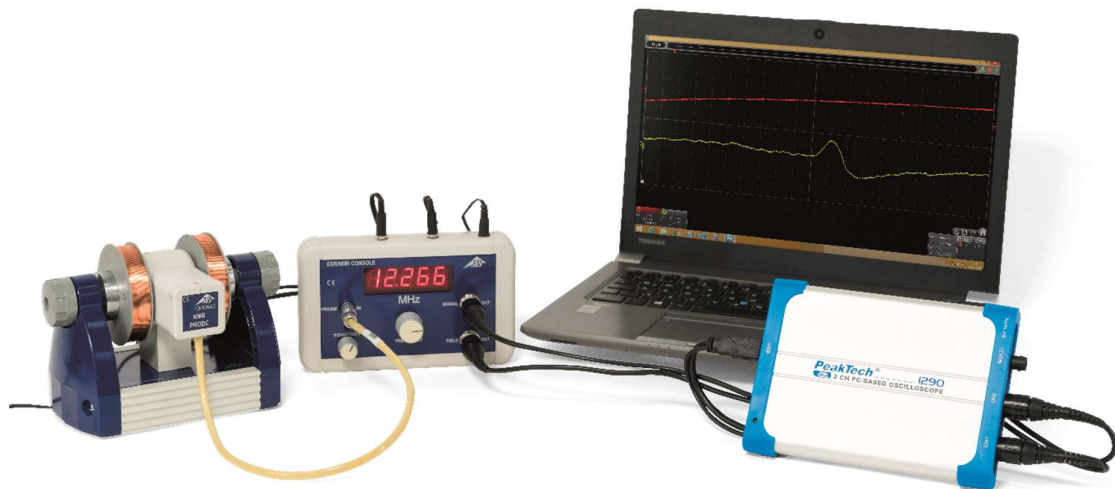

Fig. 3 NMR-experiment set-up with a PC oscilloscope
- Connect the output “SIGNAL OUT” on the control console to channel 1 of the oscilloscope and the output “FIELD OUT” to channel 2 (see Fig. 3).